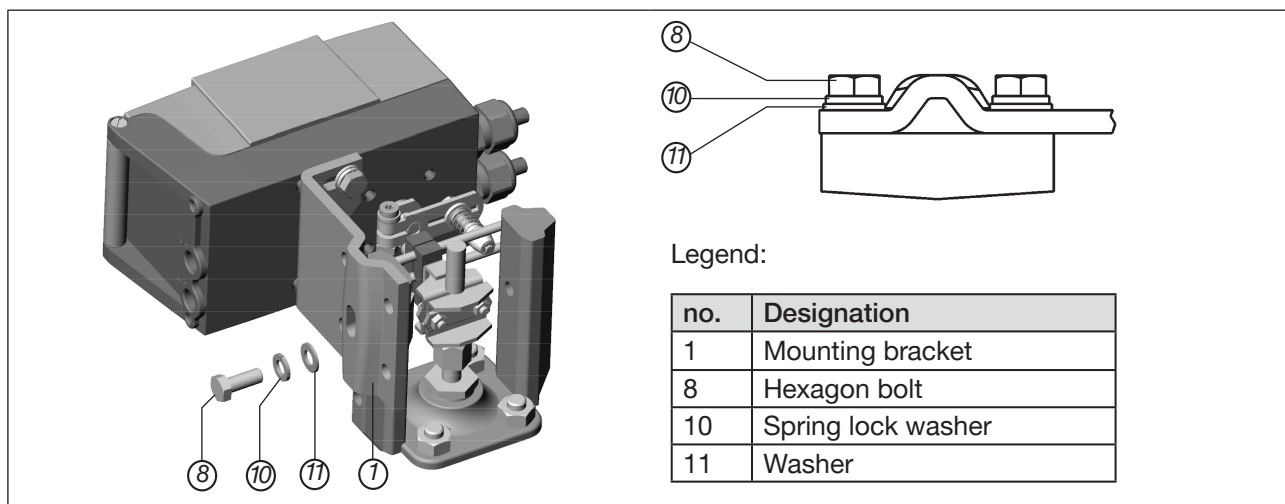

Figure 20: Attaching the positioner with the mounting bracket; for actuators with a cast frame
→ Attach the mounting bracket to the cast frame using one or more hexagon bolts (8), the washers (11) and the spring lock washers (10) (see “Figure 20”).